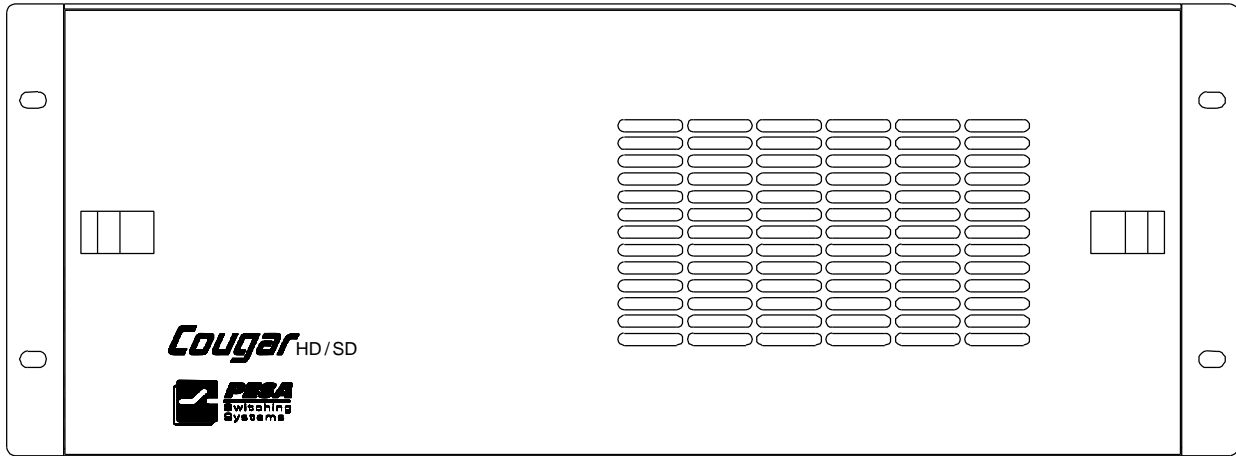
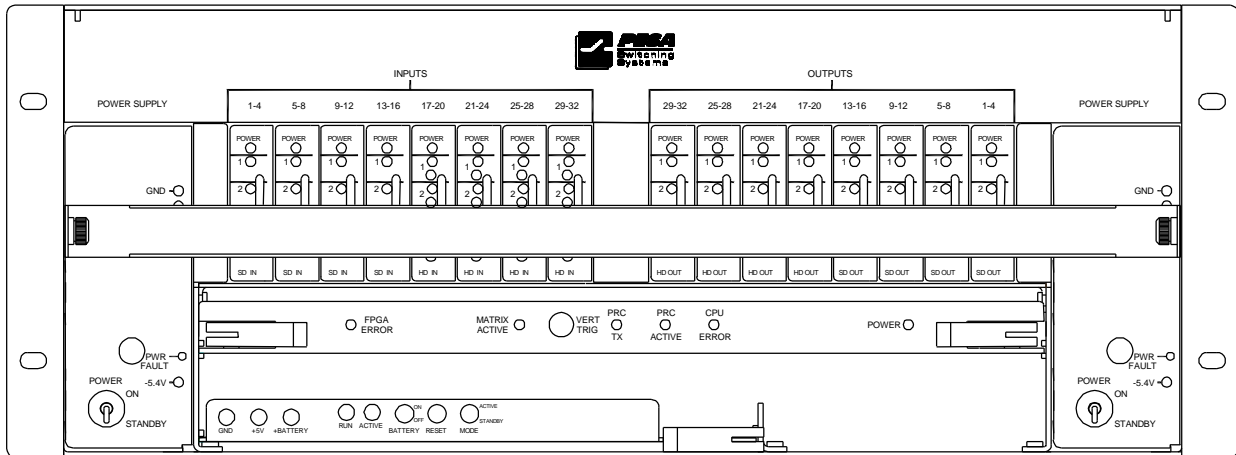

Figure 23. Cougar HD/SD Front View
Figure 24. Cougar HD/SD Front View Without Cover
1. Remove the Front Cover (Figure 23) and Retainer Bar (Figure 24).
The 32x32 Matrix board is located as shown in Figure 24 and is installed as follows: